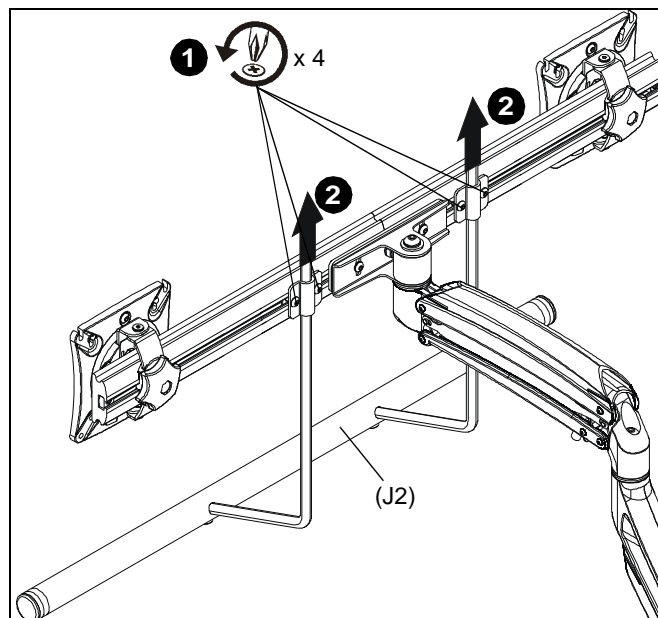

Figure 15
1. Loosen four screws securing handle brackets to K1C22H array. (See Figure 15)
2. Install uprights of handle (J) into handle brackets located on the back of K1C22 array. (See Figure 15)